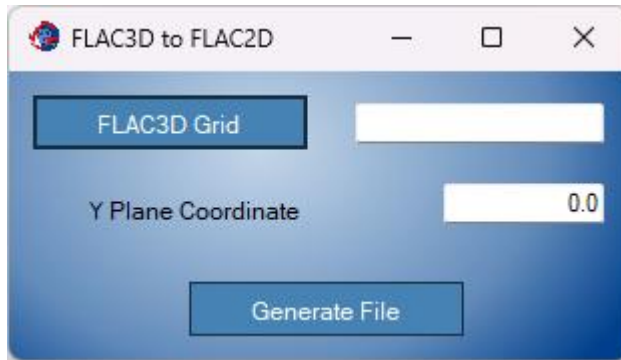

Figure 16: FLAC3D to FLAC2D dialog window.
- **FLAC3D to FLAC2D:** Opens the dialog window shown in Figure 16. This option transforms existing FLAC3D® meshes to FLAC2D meshes. The process is done for a specific Y-plane only. The Y-plane must coincide with the nodes coordinates to the second decimal point.